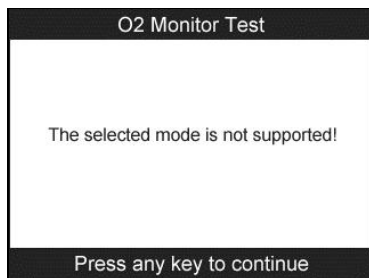

Figure 6.18
- If the vehicle does not support the mode, an advisory message will be displayed on the screen (Figure 6.18).